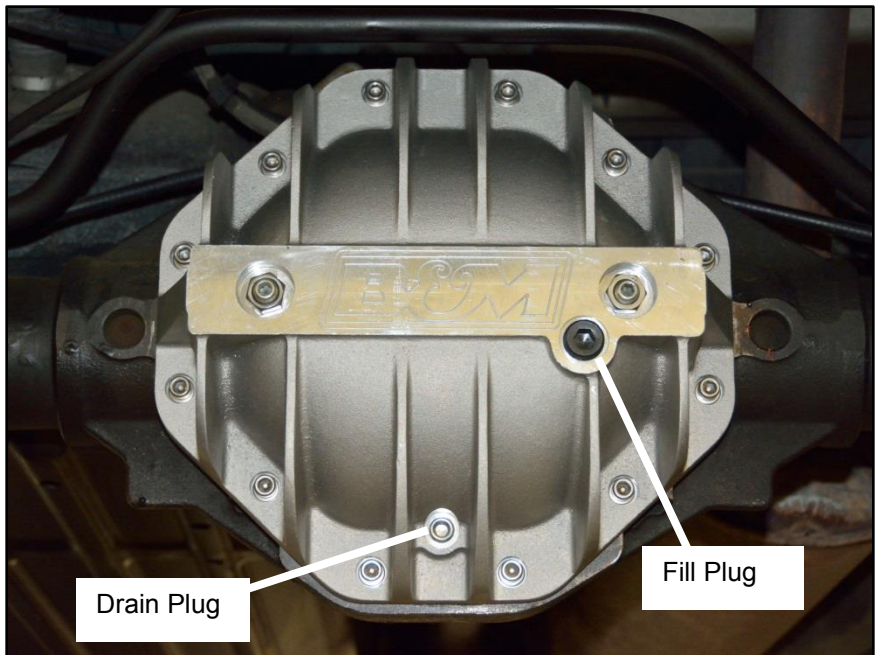

Figure 5
STEP 16. Install the supplied magnetic 1/4" NPTF drain plug on the **B&M Cast Aluminum Rear End Cover** and tighten (See Figure 5).
Cover fill plug hole (See Figure 5). Add gear oil until oil runs out of the **B&M Cast Aluminum Rear End Cover** fill plug hole.